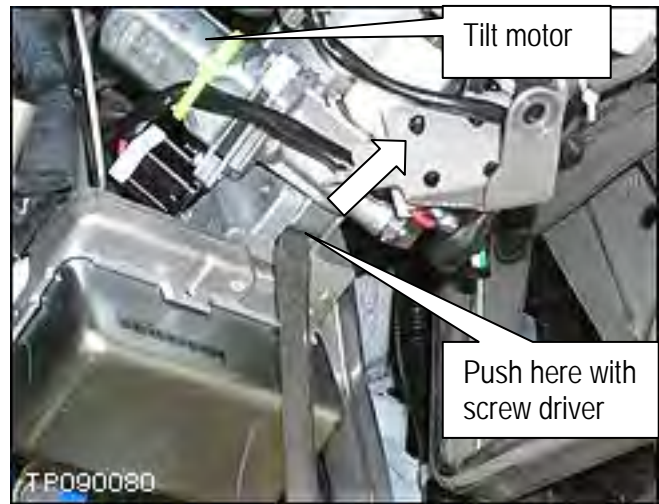

Figure 23
- a. Place a flat blade screw driver at the point shown in Figure 23.